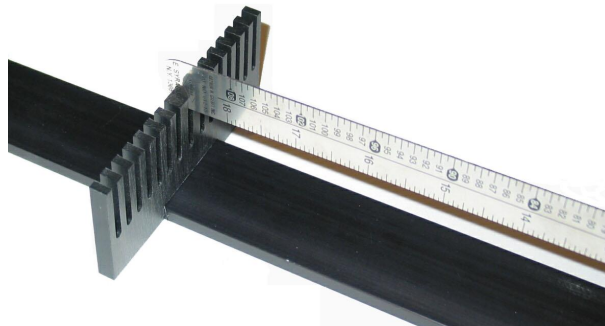

Figure 4.6: Flexible Link Tip Placed in the Middle Calibration Comb Slot
4. Place the tip in the middle tooth of the comb as seen in Figure 4.6 below.